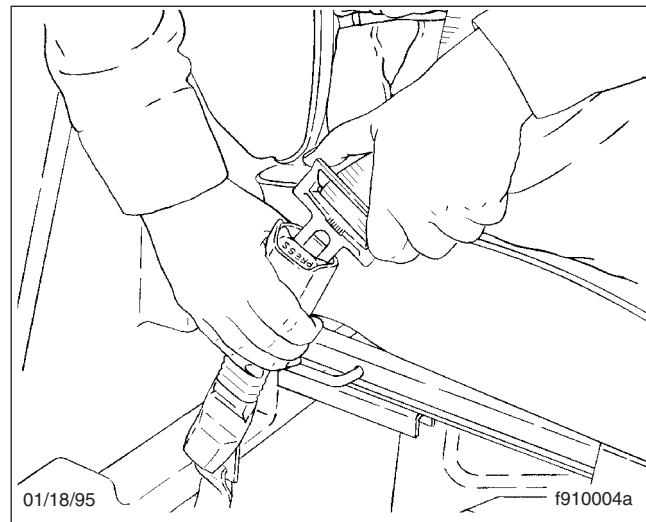

Fig. 5.19, Fastening the Three-Point Belt
2. Fasten the three-point seat belt by pushing the latch into the buckle. Listen for an audible click. See Fig. 5.19.